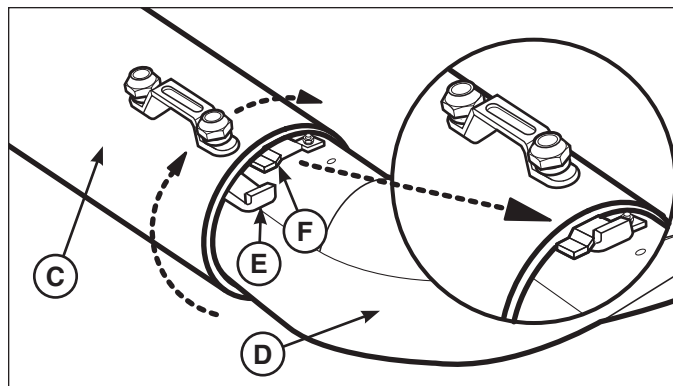

Figure 14
2. Slide the lower end of the catcher tube (C, Figure 14) over the end of the catcher boot (D).
3. Rotate the catcher tube towards the mower to secure the handle base (E) under the tube latch (F).